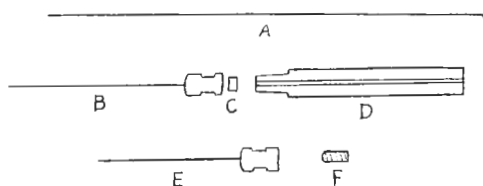

Fig 1
Fig. 1 shows (A) a piece of 0.2 mm. dia. tungsten wire with a bead of silver solder at one end, (B) a LUER fitting No. 26 x 2½ in. serum needle, (C) a disc of silicone rubber cut from ¼ in. sheet with a No. 1 cork borer, (D) an 8 cm. length of 1.5 mm. bore glass capillary tube, with tapered end ground to fit the socket of the No. 26 needle, (E) a No. 11 serum needle with the socket tapped to take the 4 B.A. grub screw (F).